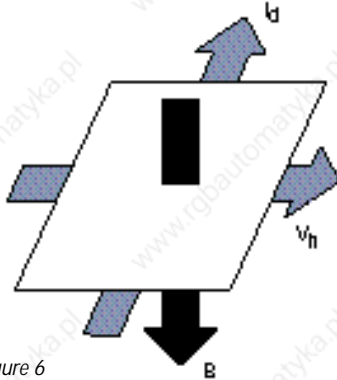

Figure 6
When a thin semiconductor (Figure 6) is placed at right angles to a magnetic field (B), and a current (I_d) is applied to it, a voltage (V_h) is developed across the semiconductor. This voltage is known as the Hall voltage, named after the US scientist Edwin Hall who first reported the phenomenon.